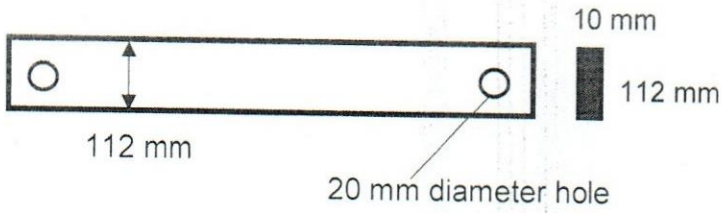

Figure 1(d)
- (c) The connection between a tractor and trailer is made from a length of steel with a rectangular cross-section **112 mm** by **10 mm**. The load is transmitted to the bar via a pin through a **20 mm** diameter hole at each end, as shown in **Figure 1(b)**. If the maximum permissible stress in the steel is **160 N/mm²**, determine the maximum load that can be taken by the bar. (06 Marks)